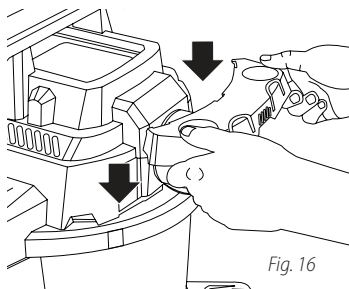

Fig. 16
38. Take tool holder 18 and slide over notches located on rear of tank. Fig. 16.